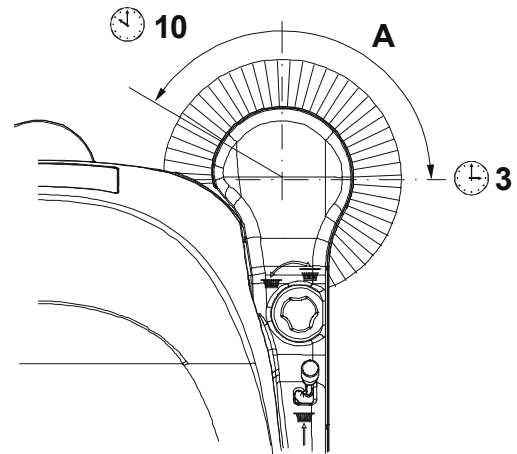

Figure 1
- Turn off the side broom by pressing the switch (1), then lift it and move the machine.
- Check if the size and orientation of the print left by the side broom are as shown in the figure (A, Fig. 1): the side broom must touch the ground along a circle arc ranging from "10 o'clock" position to "3 o'clock" position.
- Turn the knob (13) clockwise or counter-clockwise to adjust the broom height up or down.